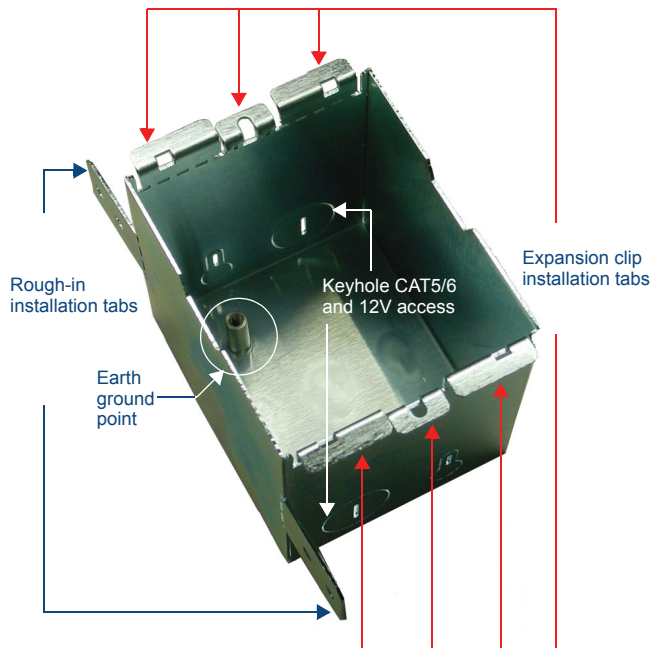

FIG. 1 Mio Modero DMS Rough-in Box
- Remove the tabs for the expansion clip installation from the rough-in box by bending back and forth with pliers. See FIG. 1.
- Run 12V or CAT5/6 cable and an Earth ground wire into the rough-in box. Locations to run power wiring into the rough-in box are shown in FIG. 1.
- Remove the tabs for the rough-in installation from the rough-in box by bending back and forth with pliers. See FIG. 1.
- Thread the 2 drywall screws through the 2 locations center on both top and bottom of the rough-in box (FIG. 1) and then through the expansion clips.
- Remove both the tabs for the rough-in installation and expansion clip installation from the rough-in box by bending back and forth with pliers. See FIG. 1.